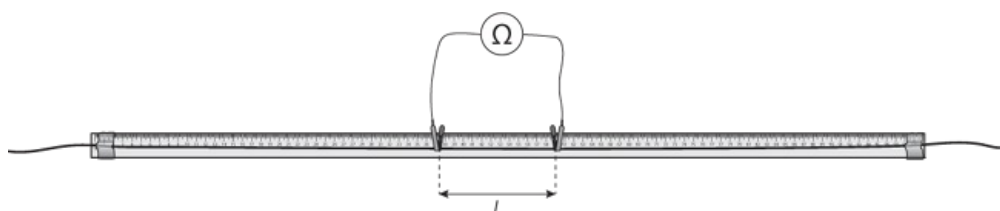

Figure 7.2: As Figure 7.1, but with ohmmeter.
- 3 Set up the circuit shown in Figure 7.2. The **ohmmeter** should be set to an appropriate range. The distance l between the crocodile clips should be 0.100 m. Record the value of the ohmmeter reading in Table 7.1 in the Results section.